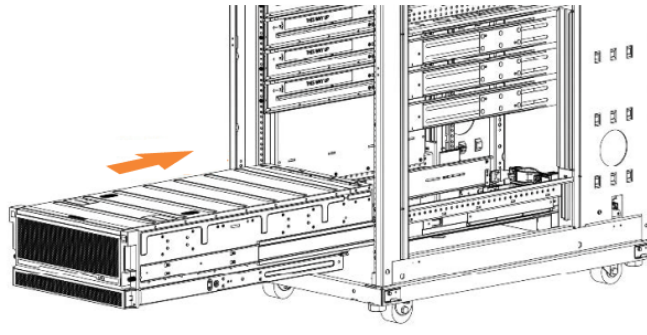

Figure 49. Example installation of the enclosure in the rack
- Install the expansion enclosure in the lowest position in the rack. Figure 49 on page 92 shows an example.